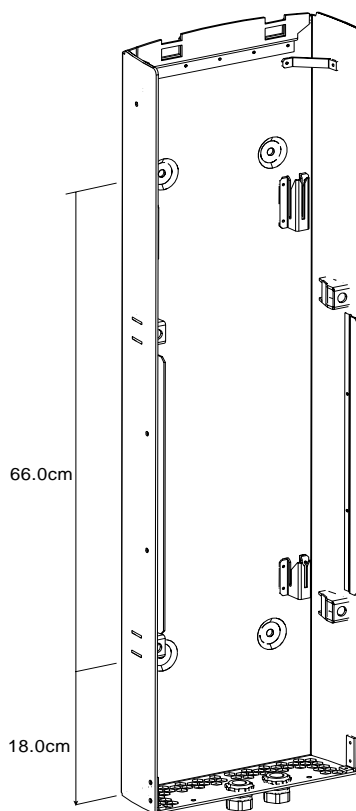

Figure 2–6 Remote Unit Mounting Bracket
Figure 2–6 shows the RBS remote unit mounting bracket and dimensions. The wall and hardware used to mount the RBS must be capable of supporting the weight of the unit. The wall must be flat so the mounting bracket does not deform and is within 0.160" in. (4.06 mm) of plumb over the length of the mounting bracket (that is, within 0.25° of vertical). If the wall is not sufficiently flat, use metal flashing to shim the mounting bracket flat to the wall. For the weight of the main and remote units, and for the required materials for wall installation, see Table 1–4 on page 1-9.
1. Using the appropriate fasteners, anchor the Unistrut (or equivalent extruded channel) horizontally on the wall to match the mounting bracket hole locations. For the mounting bracket hole locations, see Figure 2–6.